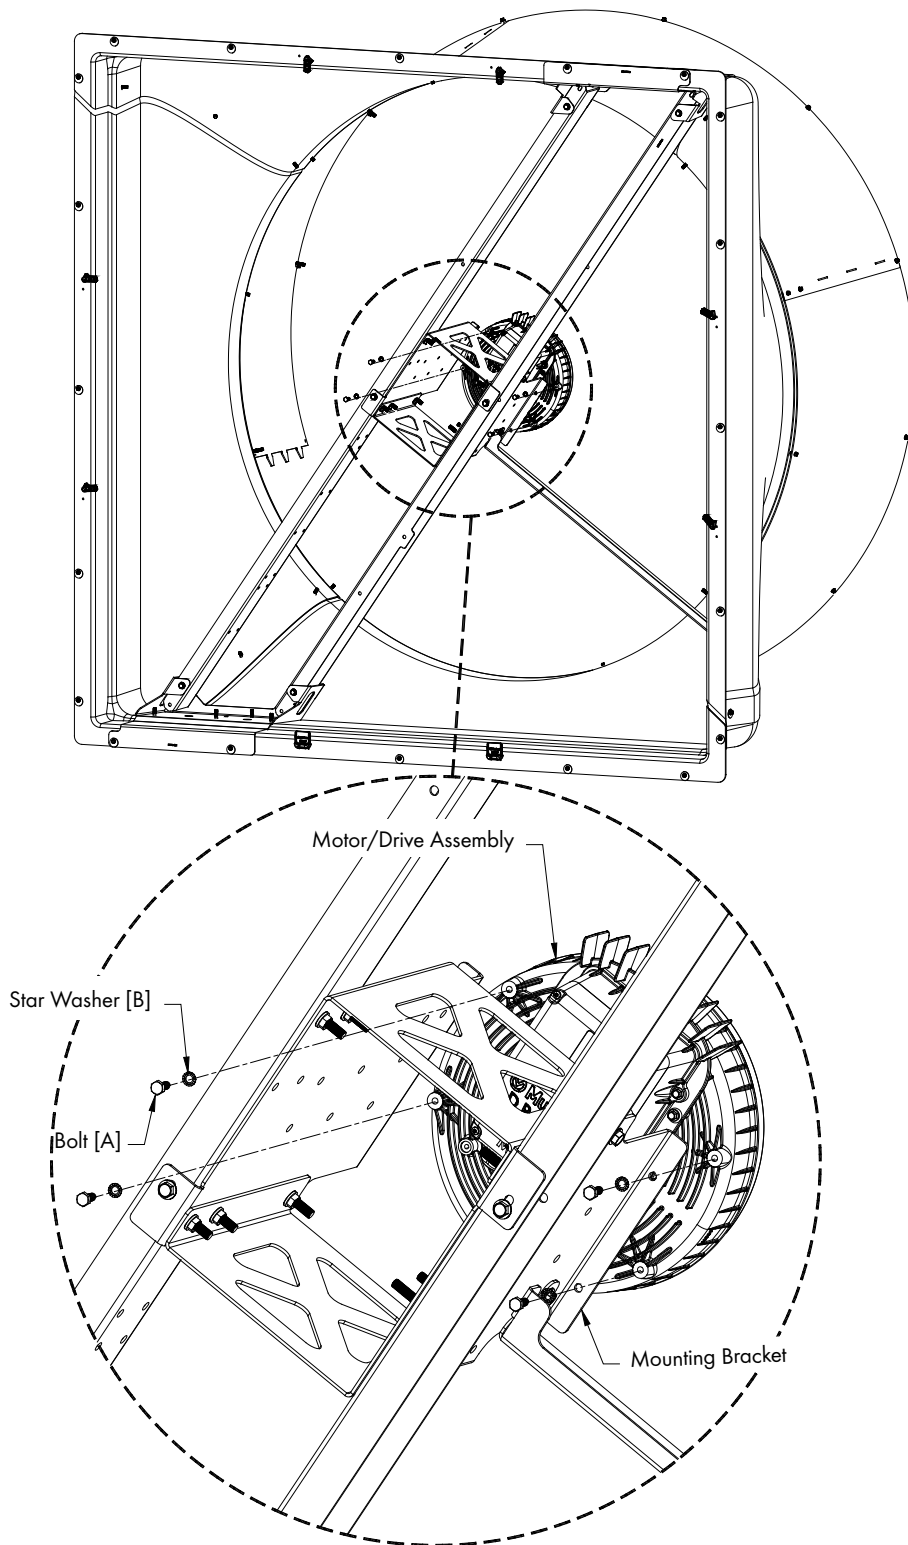

Figure 7
Carefully lift Motor/Drive into place and secure in place using (4) Bolts [A] and Star Washers [B]. Tighten Bolts to 60 in-lbs. [6.8 Nm] of torque. See Figure 7.